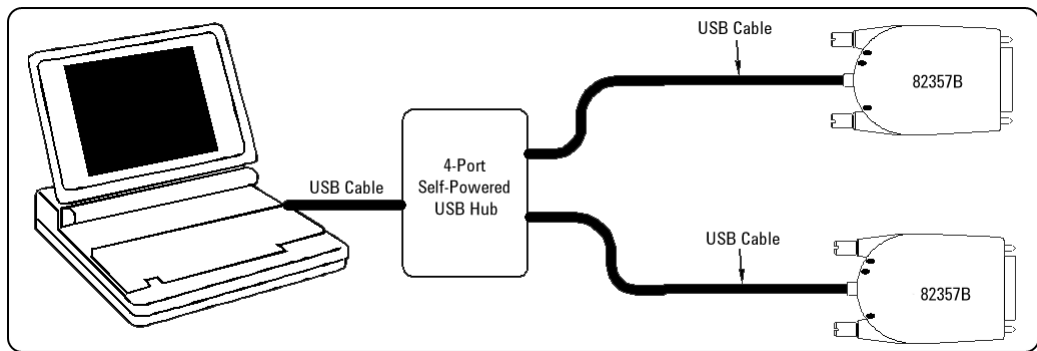

Figure 1-5 Connecting the 82357B to a USB Hub
- 1 Plug the power adapter into the hub and into an electrical outlet. Make sure the hub is operating in self-powered mode. Figure 1-5 shows a 4-port self-powered USB hub with two 82357B USB/GPIB Interfaces connected.